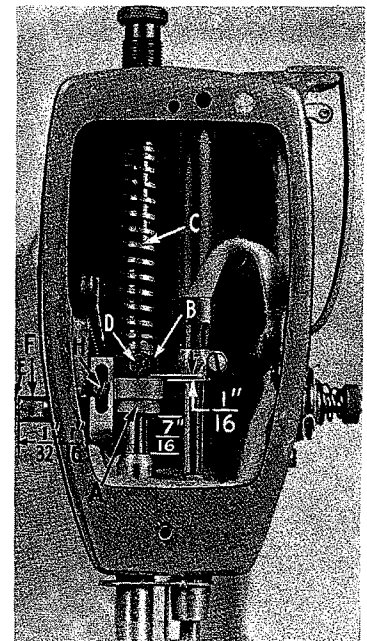

Fig. 16 A
The presser bar connection (A, Fig. 16 A) should be set so that it is about 7/16 inch (11.11 mm) above the lower presser bar bushing (Fig. 16 A). This is accomplished by tipping the machine back against the rest pin, loosening the lock nut (A, Fig. 15) and relocating the stop screw (B) on the lifter lever bell crank (C). By turning the stop screw to the right or left, the proper setting of the presser bar connection is accomplished. Tighten the lock nut (A) to lock the stop screw in place.
When locating the presser bar guide (B, Fig. 16 A), the presser foot must rest directly against the throat plate with the feed dog in its lowest position. The guide is set properly when there is a 1/16 inch (1.59 mm) space between guide (B) and presser bar connection (A, Fig. 16 A).